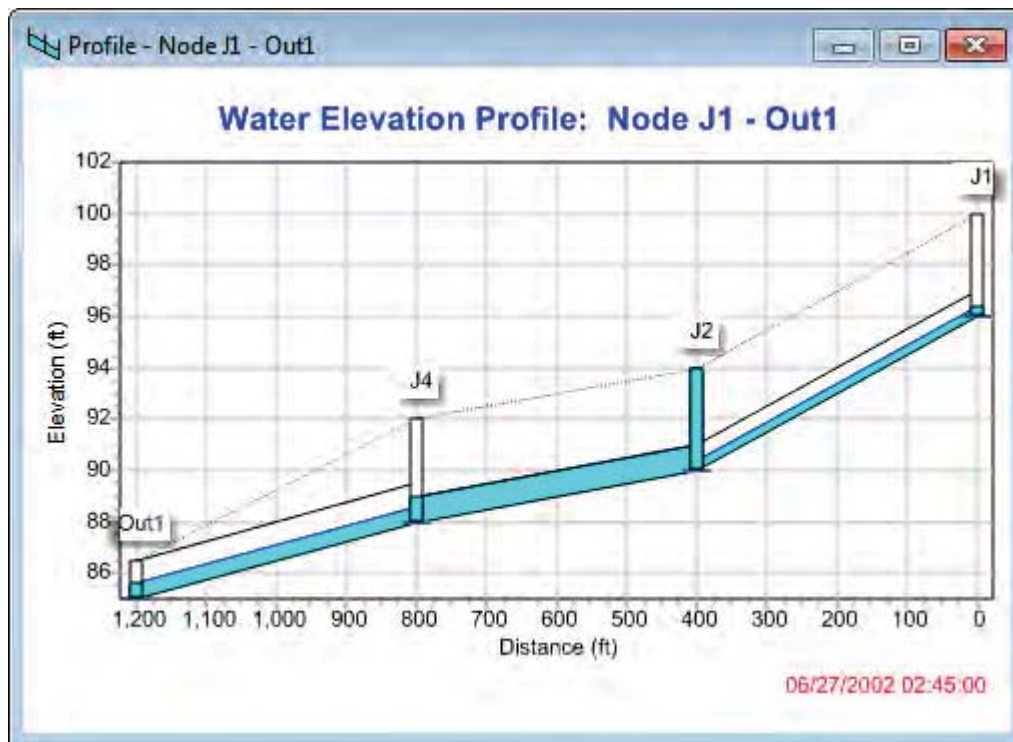

Figure 2-17 Example profile plot
5. Click the **OK** button to create the plot, showing the water surface profile as it exists at the simulation time currently selected in the Map Browser (see Figure 2-17 for hour 02:45).